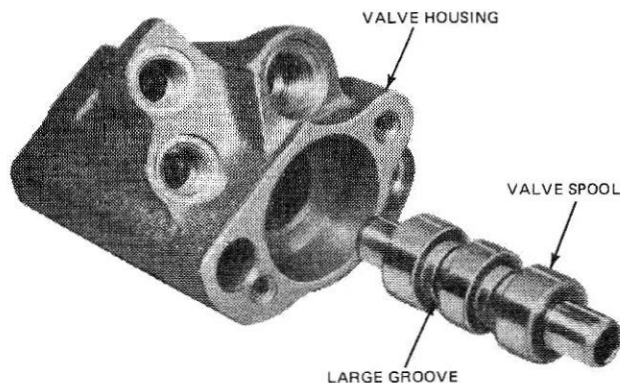

FIG. 15 Inserting Valve Spool
4. Install the spool seal, seal bushing, washer, cushion and spacer into the sleeve end of the housing and place on a flat surface. Carefully rotate the spool into the housing (with the large groove nearest the cap end, Fig. 15) until contact with the spool seal is felt. Pick up the housing and press on the cushion at the sleeve end while rotating the spool through the seal. Position the spool so it just protrudes through the seal bushing and install the seal over the spool at the cap end. Place the sleeve end on a flat surface. Using a small blunt screwdriver, work the seal into the housing. Do not scratch the spool, seal, or housing. Install the seal bushing.